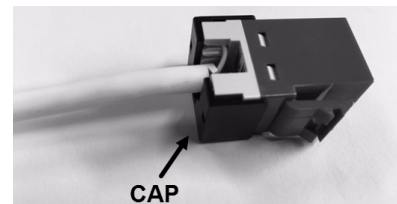

Figure 13b
21. Cat 6A jacks require the use of the isolator cap, assembled as shown in Figure 13b by sliding it on to the jack. Cap can be oriented with cable exit to either side; for use in panels, cap must be oriented as shown.